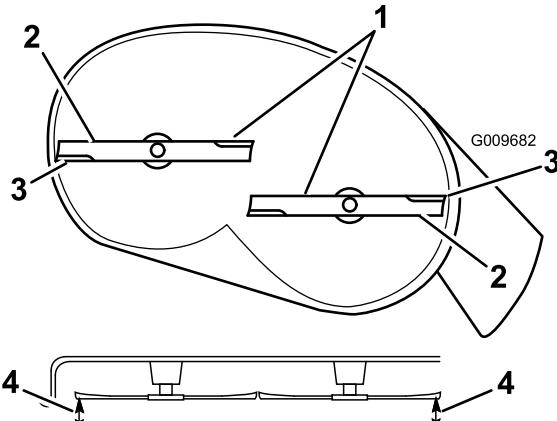
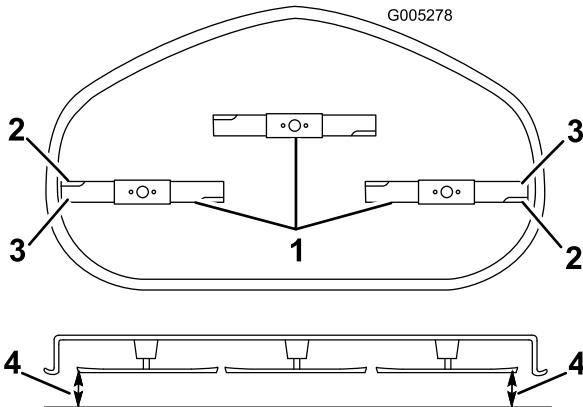

Figure 60
Figure 61
4. Carefully rotate the blades so that they are all side to side (Figure 60 and Figure 61).
- 5. Measure between the outside cutting edges and the flat surface (Figure 60 and Figure 61).